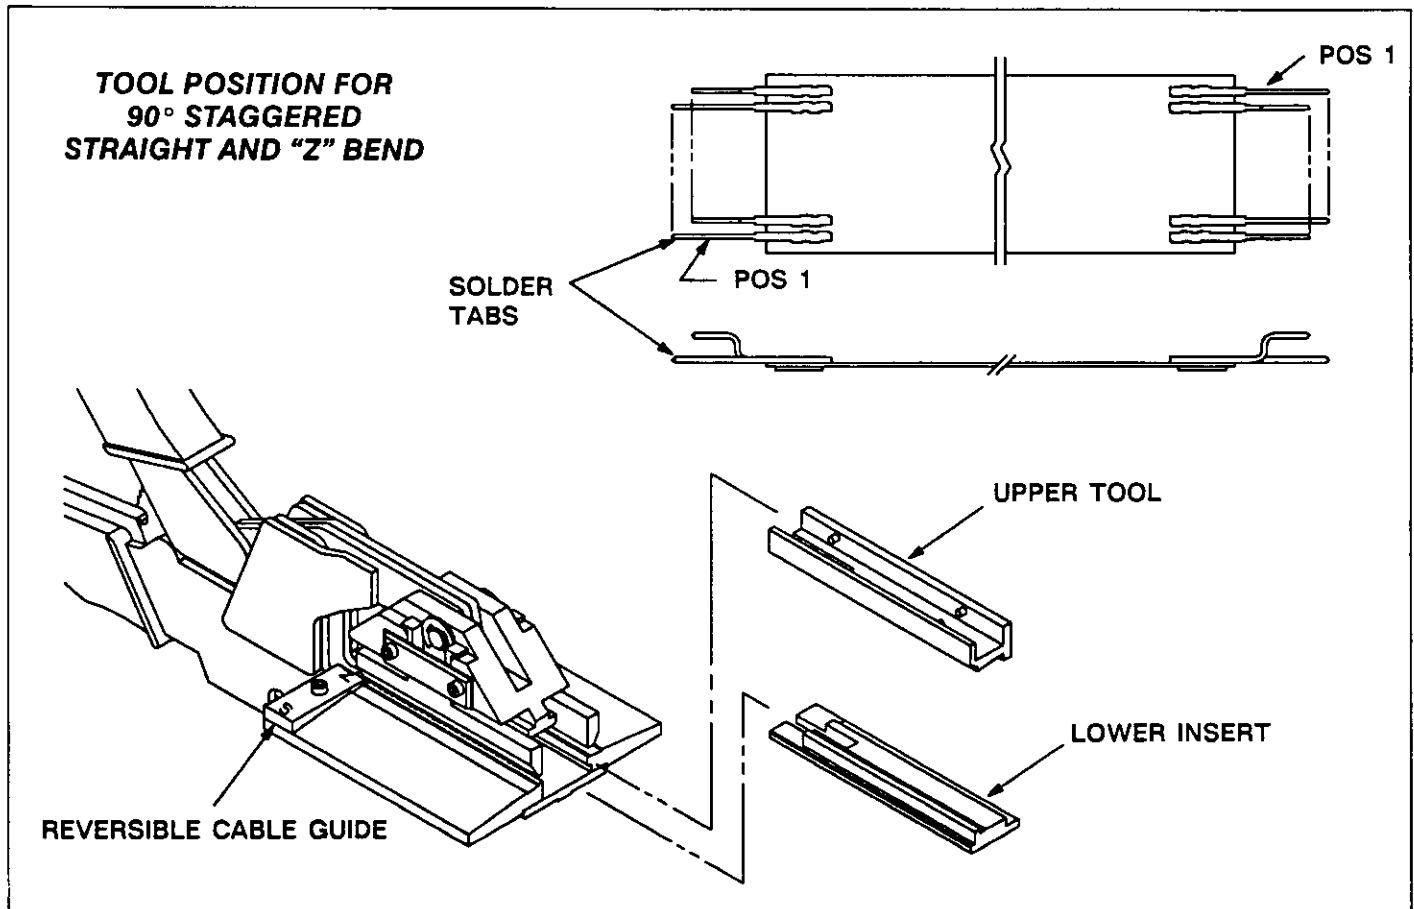

Fig. 4
B. .050 Centerline Cable, "Z" Bend (Figure 4)